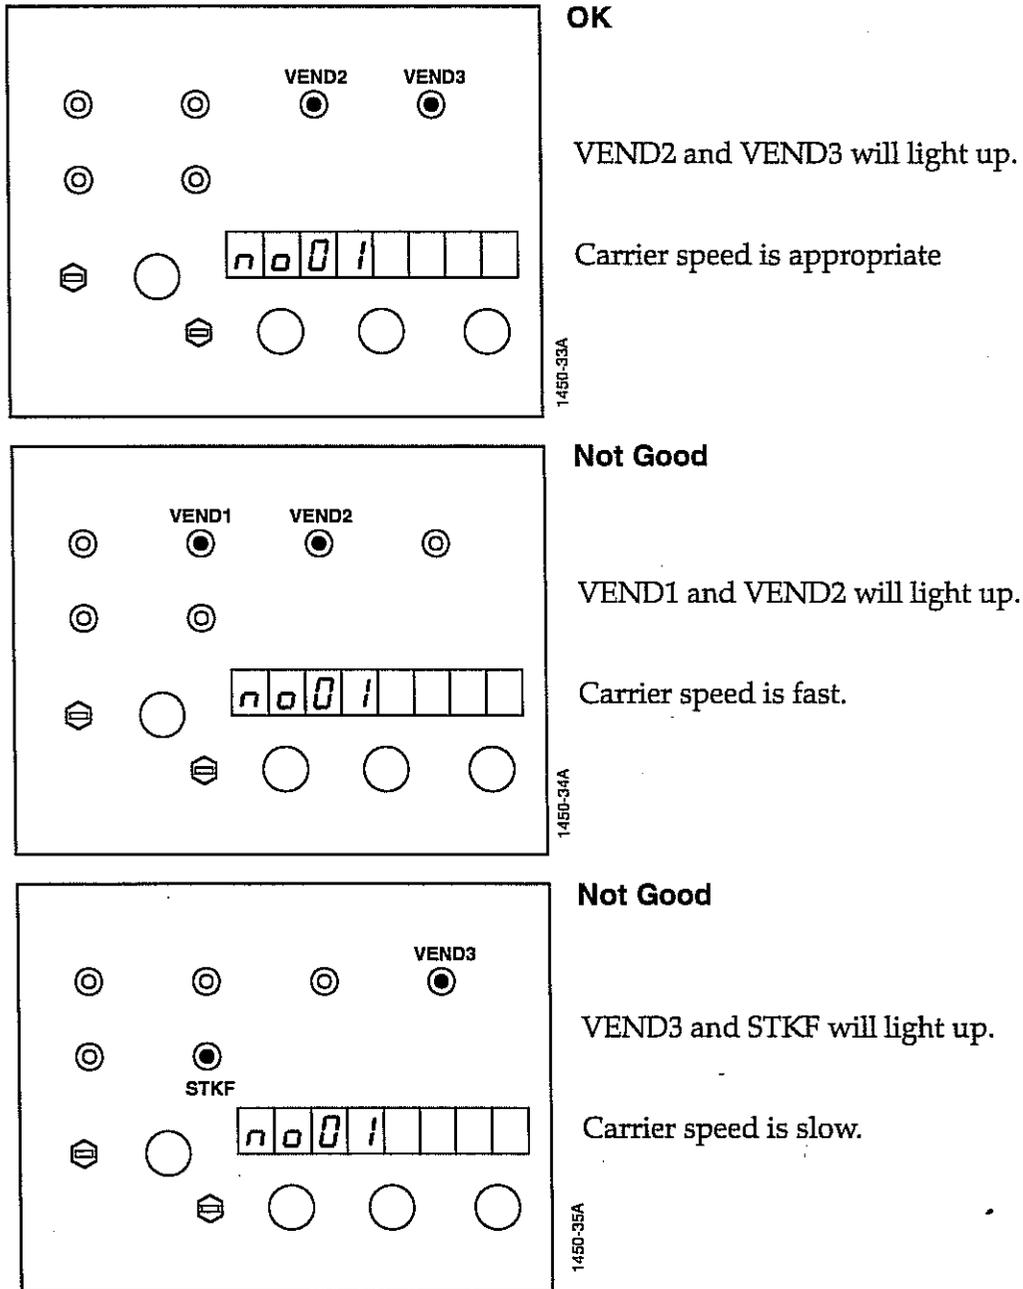

Figure 3-28. Test No. 01 Displays.
1. Be sure that **no. 01** is displayed on the LED display (see Figure 3-28).